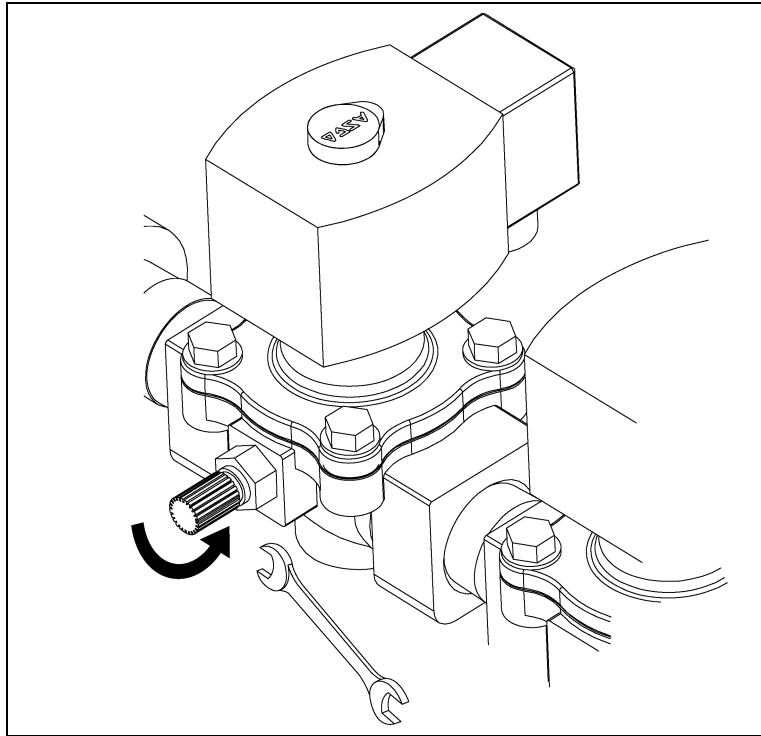

Figure 5S
2. Adjust low-fire setting to maximum. *(See Figure 5S.)*